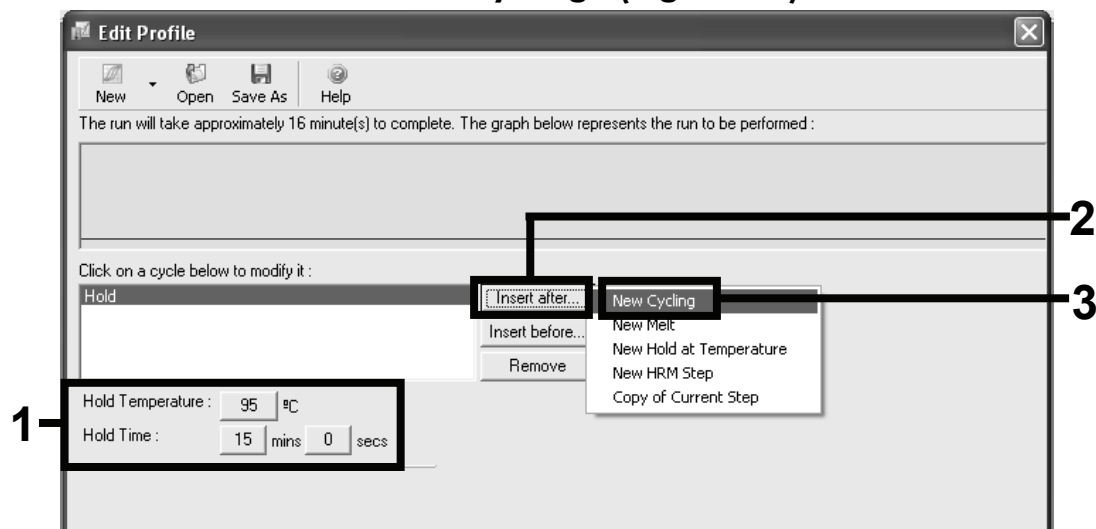

Figure 19. Initial incubation step at 95°C.
14. Click “60°C” and change the “Hold Temperature” to 95°C, then click “1” to change the “Hold Time” to 15 mins. Click the “Insert After” button and then select “New Cycling” (Figure 19).